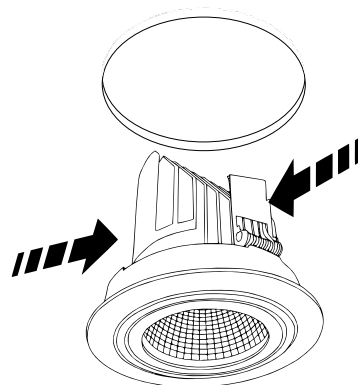

fig. 3
3. Press the springs together and place the recessed downlight in the sawn out hole (fig. 3).